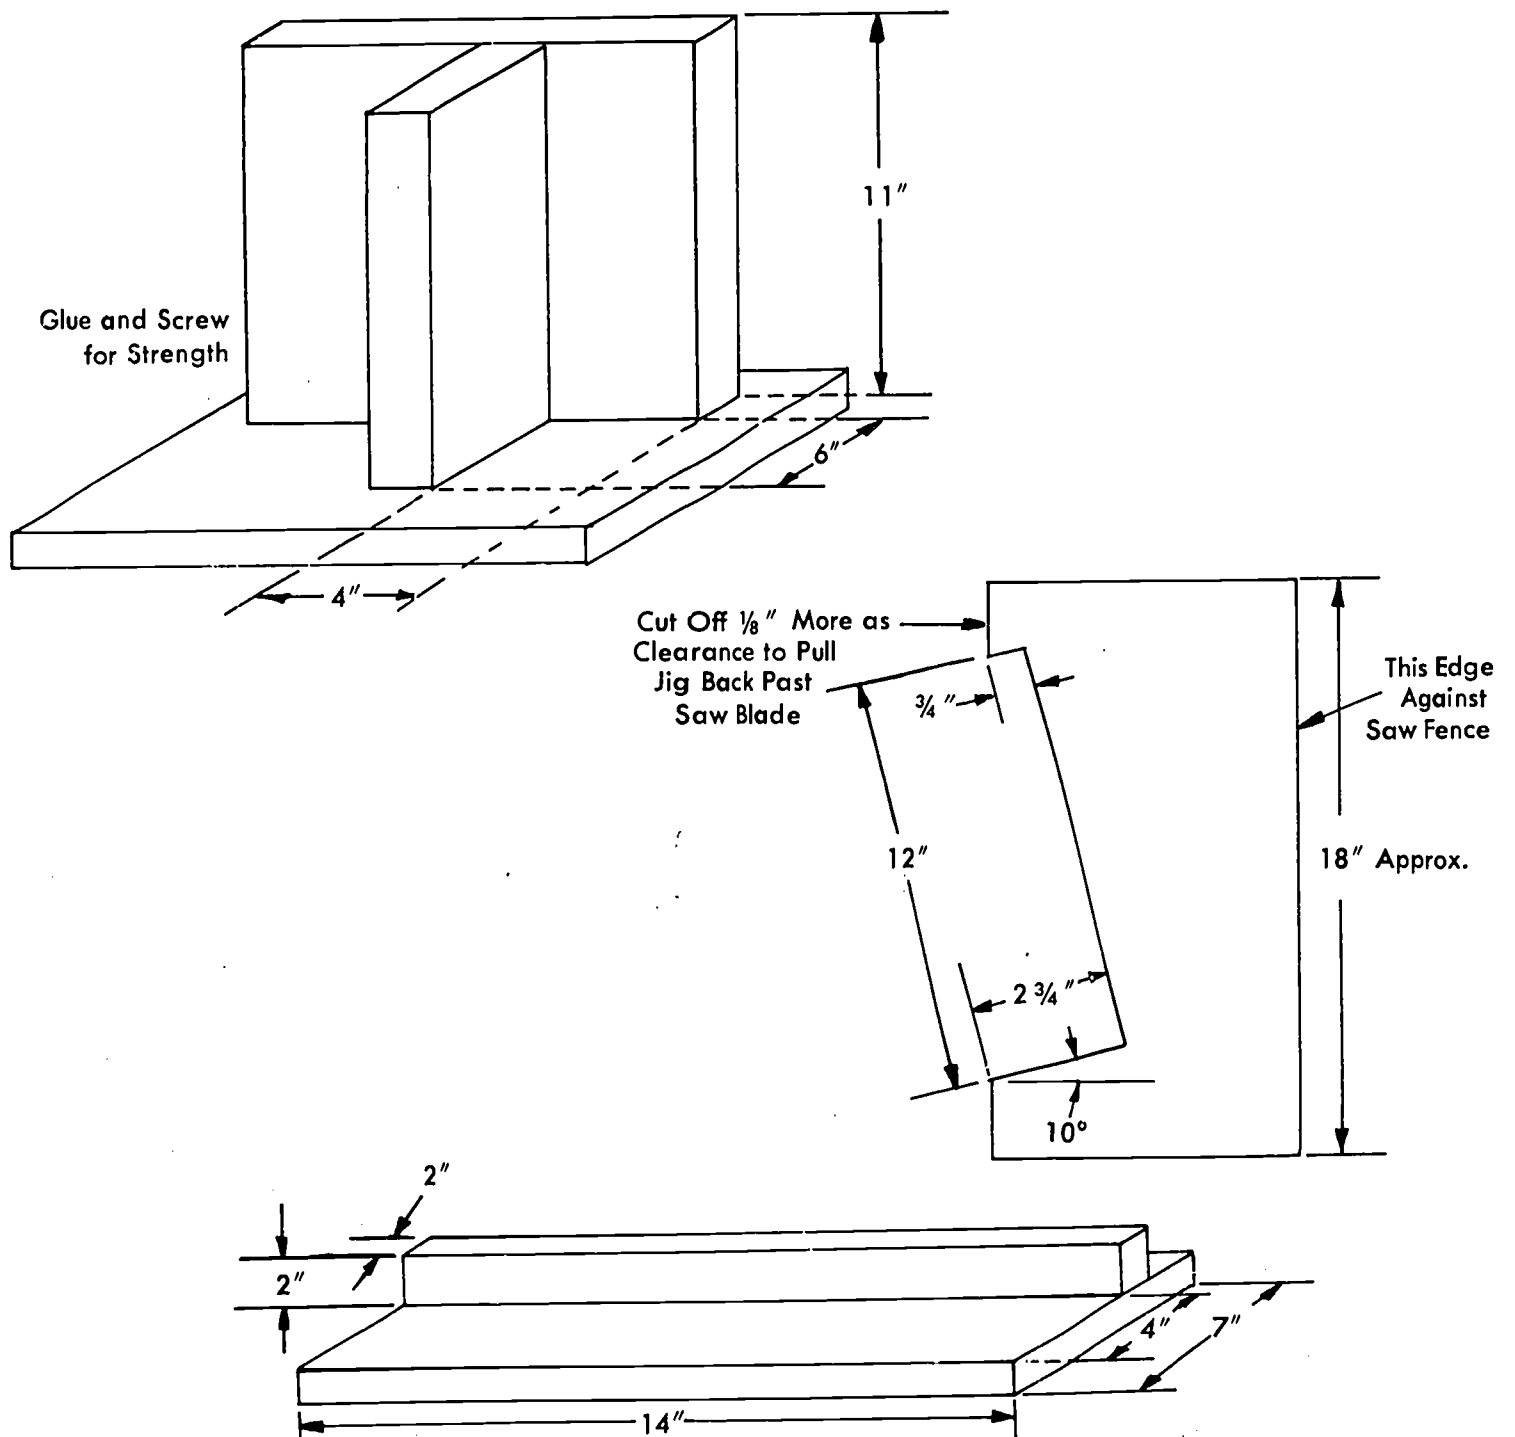

Fig. 31-6. Jigs and Fixtures
Look ahead to Assignment 31-34, and prepare Jigs and Fixtures 31-1, 31-2, and 31-3. See Fig. 31-6.
- 1 Drill Fixture 31-1 (See Fig. 31-6.)
- 1 Taper Jig 31-2 (See Fig. 31-6.)
- 1 Drill Fixture 31-3 (See Fig. 31-6.)